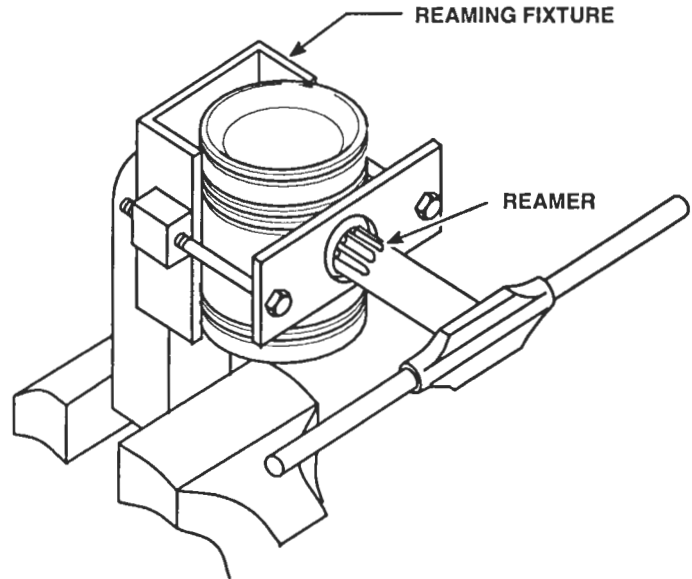

Figure 6. Reaming Piston Bushing
- a. Clamp the reaming fixture J 5273 in a vise (Figure 6.) Then, insert the guide bushing J 3071-7A in the fixture and secure it with the set screw.